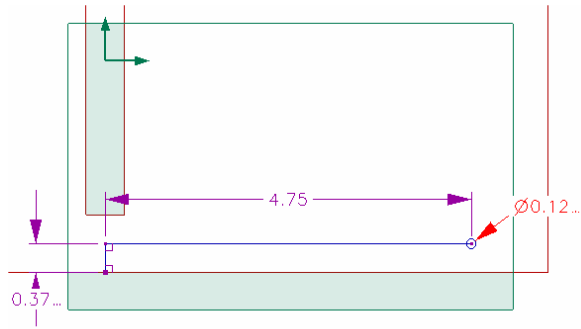

Figure 19. Layout for right fence mounting hole.
34. Locate and create a circle at the right of the design according to figure 19. This hole should be 1/8" diameter but it could be any size since it will be used for alignment purposes during assembly. The hole should be 3/8" (0.375) up from center and 4-3/4" to the right as shown in figure 19.